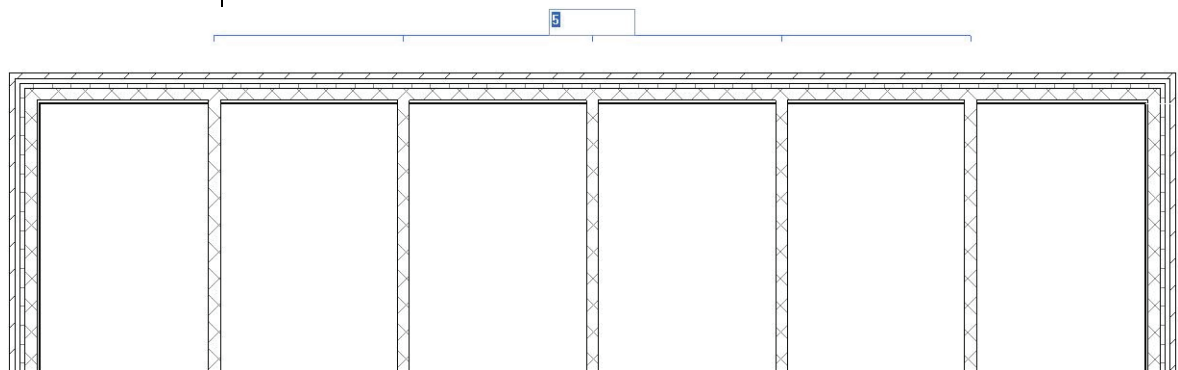

Figure 5–5
- If you have the **Group and Associate** option toggled on, you are prompted again for the number of items, as shown in Figure 5–5. Type a new number to change the amount of elements required. Click on the screen to end the command.